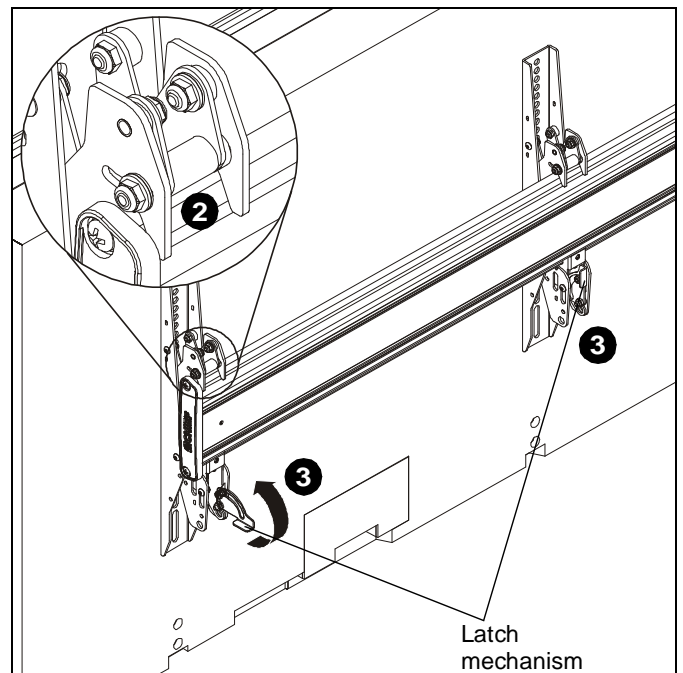

Figure 14
2. While supporting both sides of display, lower display onto center of ceiling mount, hooking top of interface brackets onto front of ceiling mount. (See Figure 14)
3. Raise the latch mechanism on both interface brackets to lock bracket in place. (See Figure 14)
6. While supporting both sides of second display, lower second display onto one end of mounting rail, hooking top of interface brackets onto front of mounting rail. (See Figure 14)
8. While supporting both sides of third display, lower third display onto opposite end of mounting rail, hooking top of interface brackets onto front of mounting rail. (See Figure 14)